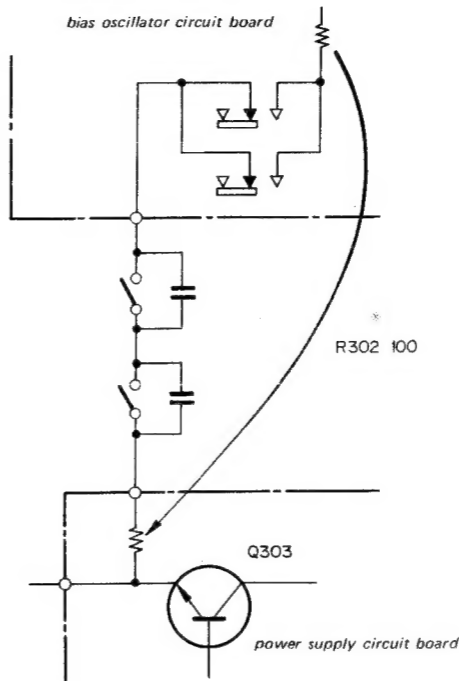

Fig. 2 Schematic diagram
2. R302 (100Ω) is remounted on the power supply circuit board from the bias oscillator circuit board, to prevent Q304 from damage caused when B+ circuit of the bias oscillator board is short-circuited. See Figs. 2 and 3.